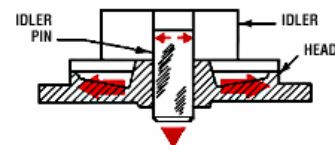

Figure 1
- 2) These thermal expansion rates vary from material to material. While steel and tungsten carbide are each capable of withstanding temperatures through 800°F (425°C), a tungsten carbide pin pressed into a steel head will be rated to much less. Steel has a higher coefficient of thermal expansion than tungsten carbide and as such, the fit between these parts loosens at elevated temperatures (figure 1). Similarly, idler/bushing assemblies need to be checked as well. This assembly temperature limit will depend on the materials of each component as well as the part dimensions (both overall size and fit).